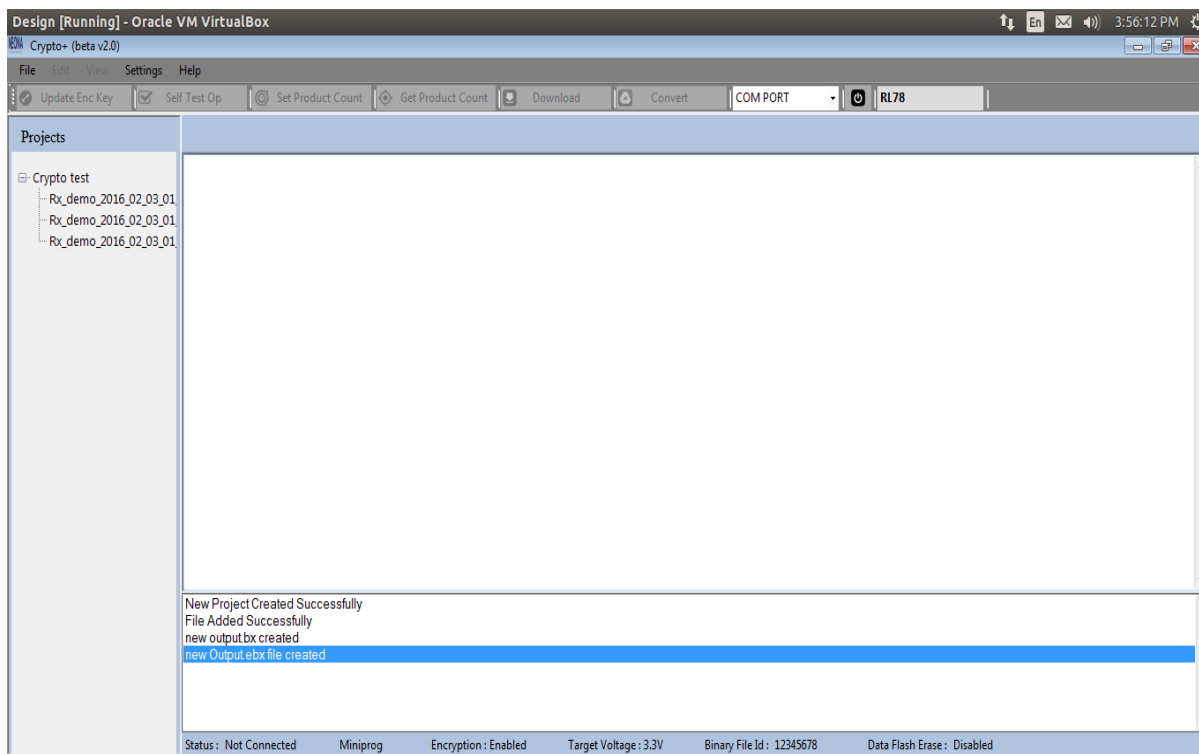

Figure 2.29
STEP 5: After the successful creation of the .ebx file a message ‘**new output ebx file created**’ is displayed in the text view and the ebx file will be added in the tree-view as shown in figure 2.29.